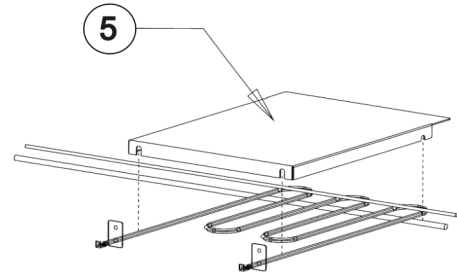

FIGURE 2
6. Position heat shields (#5) on elements (Fig.2). Shields rest on elements and large support rod.